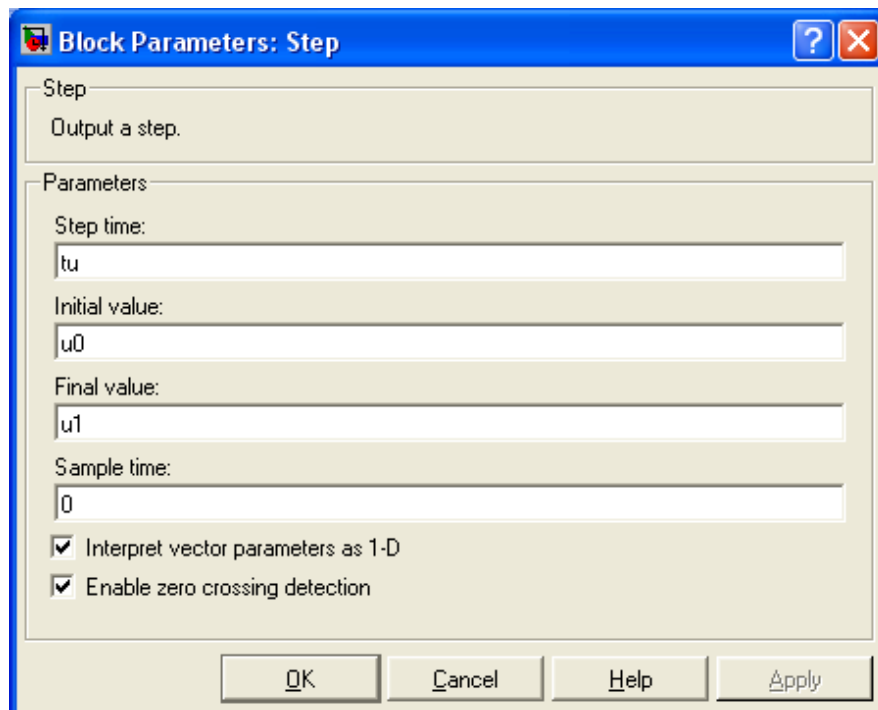

Figure 2.3: Parameter settings window of the **Step** block
- Open the parameter settings window of the **Step** block by double-clicking the block, cf. Figure 2.3. Enter the parameters as